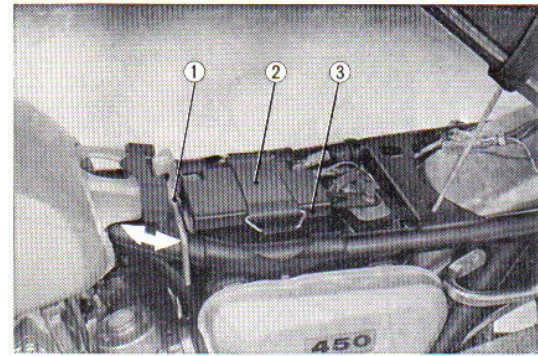

Fig. 6.41
- ① Torque wrench
- a. Access to the battery is by releasing the seat latch ① on the front end under the seat and raising at the front. Use the stay which is attached to the under side of the seat to hold the seat in the raised position. (Fig. 6.41)